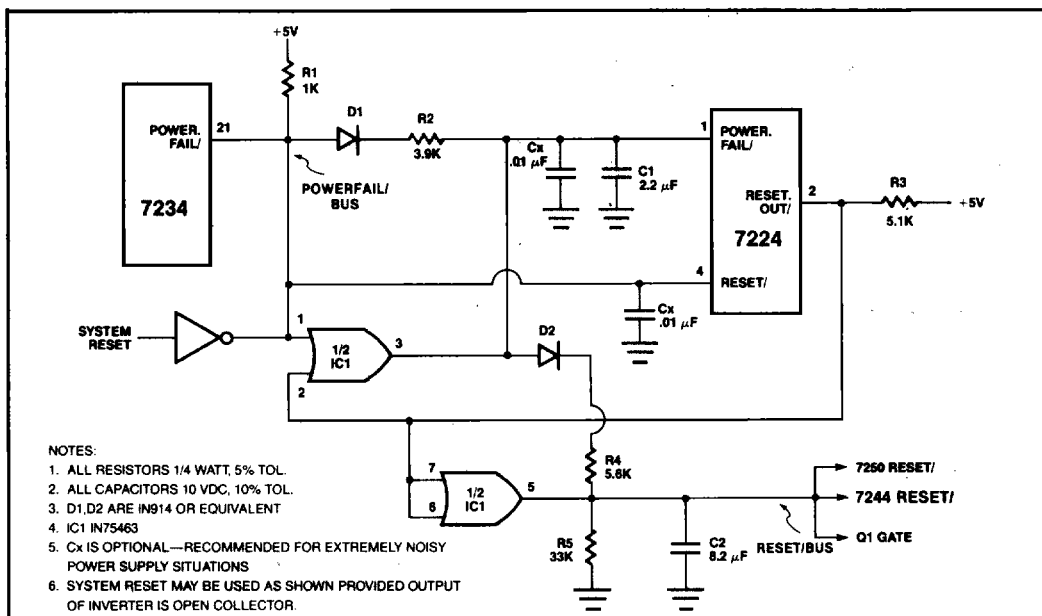

Figure 3. Power Fail Circuit
- The power supply requirements based on recommended power fail circuitry as shown in Figure 3.